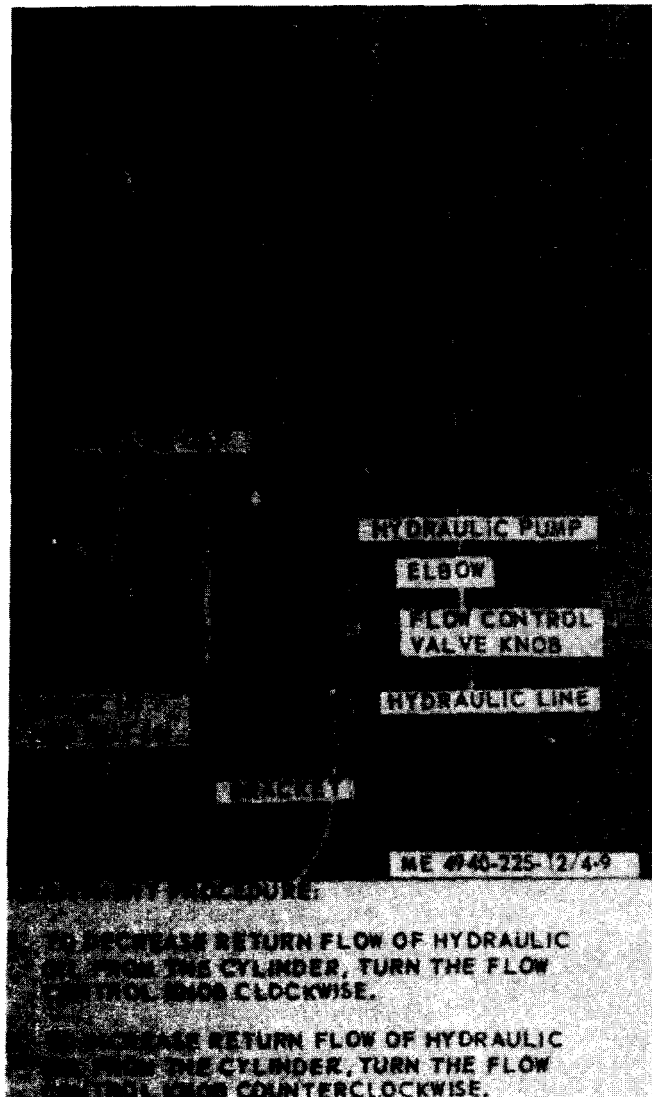

Figure 4-9. Hydraulic pump, removal and installation.
a. *Adjustment.* Adjust the flow control valve as illustrated in figure 4-9.
(1) Clean all parts in cleaning solvent and dry thoroughly.
(2) Inspect for damage or defects and replace a defective flow control valve.
(1) Disconnect the hydraulic line (fig. 4-9) from the flow control valve.
(2) Remove four screws, nuts and washers, and remove the hydraulic pump from the bracket.
(3) Remove the flow control valve from the elbow and remove the elbow from the hydraulic pump.
(1) Install the flow control valve in the elbow and install the elbow in the cylinder pump (fig. 4-9).
(2) Install the hydraulic pump in the bracket, and secure with screws, nuts, and washers. Connect line to flow control valve.
(1) Remove the filler cap (fig. 4-9) from the top of the pump and add fluid as necessary in accordance with the LO 5-4940-225-12. Install and tighten filler cap.
(2) Pressurize the system and raise the side. When the cylinder assembly reaches one-third its extended position, any air in the system can be bled by loosening the hydraulic line connection, at the flow control valve, just enough that air in the line can escape. When hydraulic fluid begins to appear, tighten the connection. Refill the hydraulic pump after bleeding and while side door is closed.